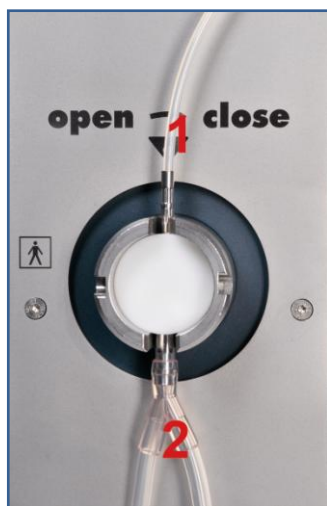

Fig. 4-18: Position of the infiltration pump
The infiltration tube (1) of the WAL applicator must lead upwards whereas the transfer tubes (2) for the fluid supply must lead downwards (Fig. 4-18).